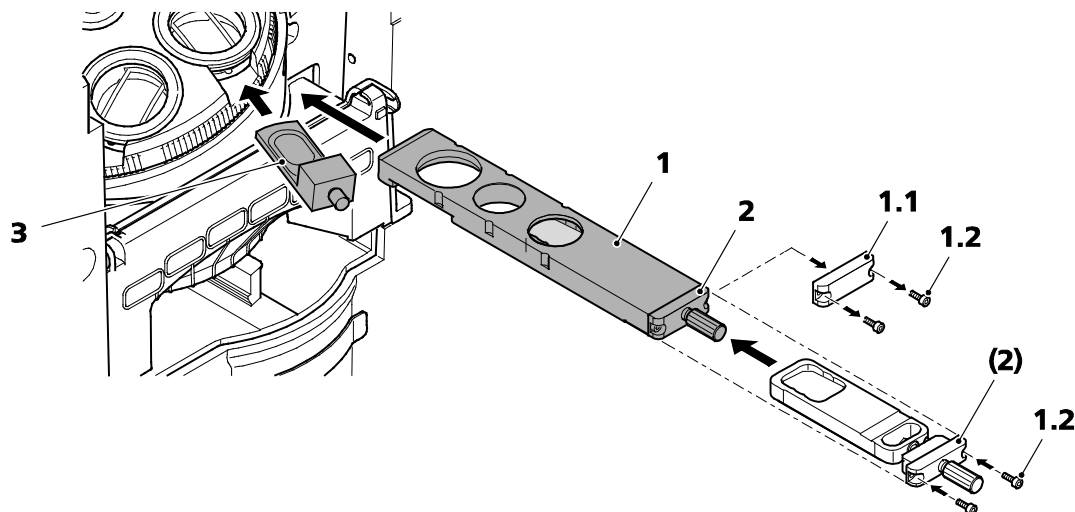

Fig. 153 Setting the PlasDIC contrast
- Insert the PlasDIC slider (Fig. 153/3) into the DIC slot of the objectives to be used and additionally swivel or slide an analyzer, e.g. the analyzer module Pol ACR P&C of the reflector turret or the analyzer slider, fixed, into the optical path.
- Insert the 3-position contrast slider (Fig. 153/1) with fitted PlasDIC module (Fig. 153/2) into the slot below the nosepiece.
- Loosen the screws (Fig. 153/1.2) on the cover (Fig. 153/1.1) of the contrast slider and remove the cover.
- Insert the PlasDIC module (Fig. 153/2) into the contrast slider and fix with the screws (Fig. 153/1.2).